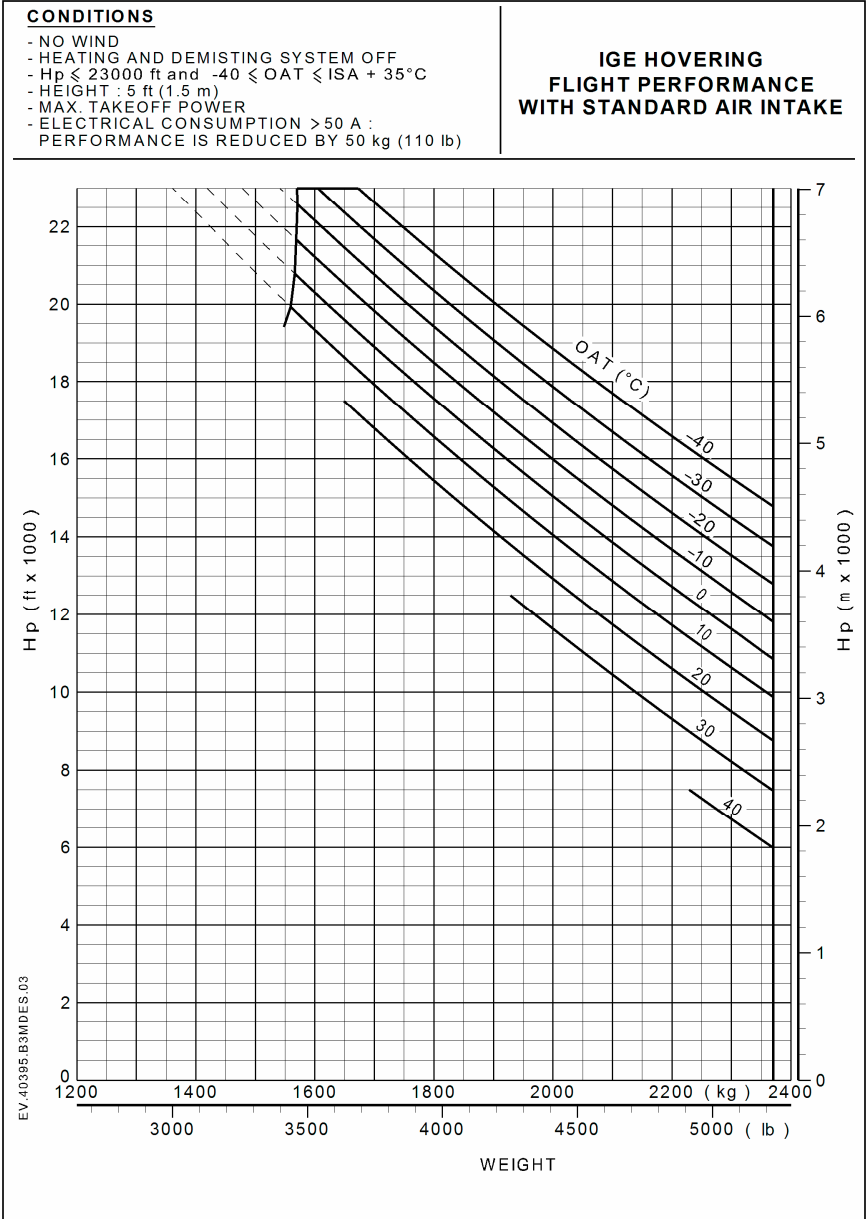

Figure 2
- Refer to pages SUP.28 pages 6 to 11 (Figures 2 to 7).